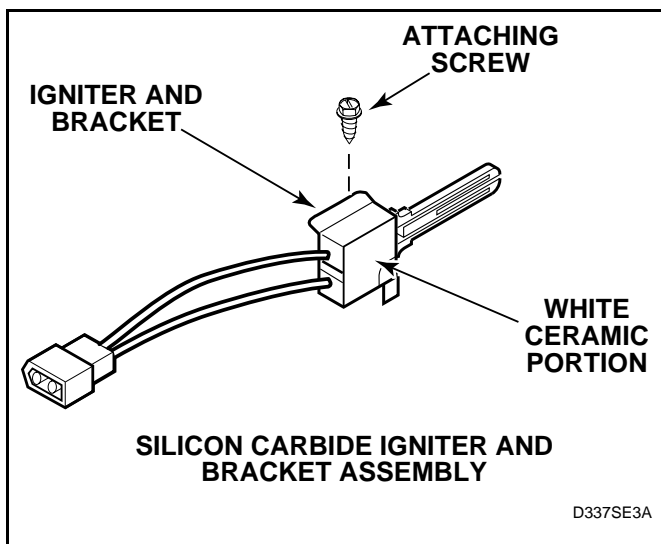

Figure 61
- Silicon Carbide Igniter** – meter should read between 45 – 200 Ohms. See *Figure 61*.